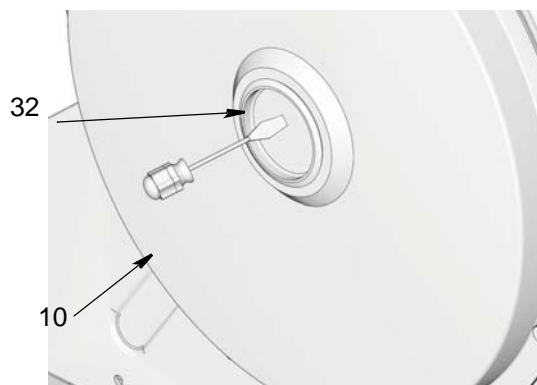

FIG. 10
- a. Insert a flat screwdriver blade into the plastic end cap (32) and pry it off the spring canister (10) (FIG. 10). Discard end cap, it cannot be reused.